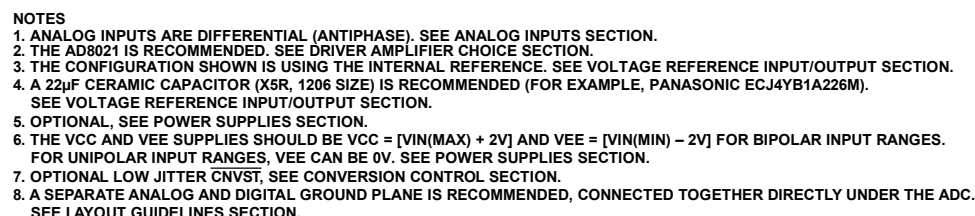
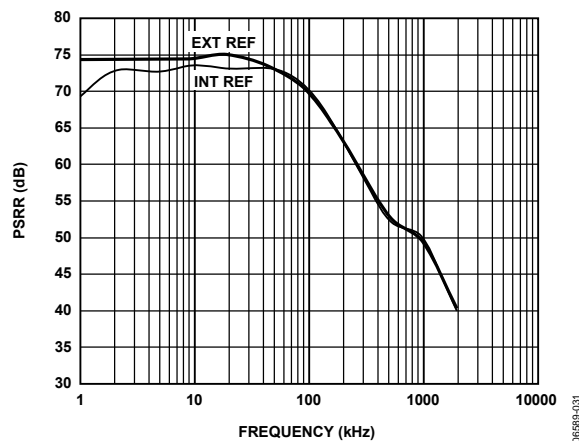

Figure 27. Typical Connection Diagram Shown with Serial Interface and Serial Programmable Port
Figure 32. AVDD PSRR vs. Frequency
Figure 27 shows a typical connection diagram for the AD7952 using the internal reference, serial data, and serial configuration interfaces. Different circuitry from that shown in Figure 27 is optional and is discussed in the following sections.
Because the input impedance of the AD7952 is very high, it can be directly driven by a low impedance source without gain error. To further improve the noise filtering achieved by the AD7952 analog input circuit, an external, 1-pole RC filter between the amplifier's outputs and the ADC analog inputs can be used, as shown in Figure 27. However, large source impedances significantly affect the ac performance, especially THD. The maximum source impedance depends on the amount of THD that can be tolerated. The THD degrades as a function of the source impedance and the maximum input frequency.
- The noise generated by the driver amplifier needs to be kept as low as possible to preserve the SNR and transition noise performance of the AD7952. The noise coming from the driver is filtered by the external 1-pole, low-pass filter, as shown in Figure 27. The SNR degradation due to the amplifier is
The AVDD and DVDD supply the AD7952 analog and digital cores, respectively. Sufficient decoupling of these supplies is required, consisting of at least a  $10\text{ }\mu\text{F}$  capacitor and a  $100\text{ nF}$  capacitor on each supply. The  $100\text{ nF}$  capacitors should be placed as close as possible to the AD7952. To reduce the number of supplies needed, the DVDD can be supplied through a simple RC filter from the analog supply, as shown in Figure 27.
The AD7952 requires sequencing of the AVDD and DVDD supplies. AVDD should come up prior to or simultaneously with DVDD. This can be achieved using the configuration in Figure 27 or sequencing the supplies in that manner. The other supplies can be sequenced as desired as long as absolute maximum ratings are observed. The AD7952 is very insensitive to power supply variations on AVDD over a wide frequency range, as shown in Figure 32.